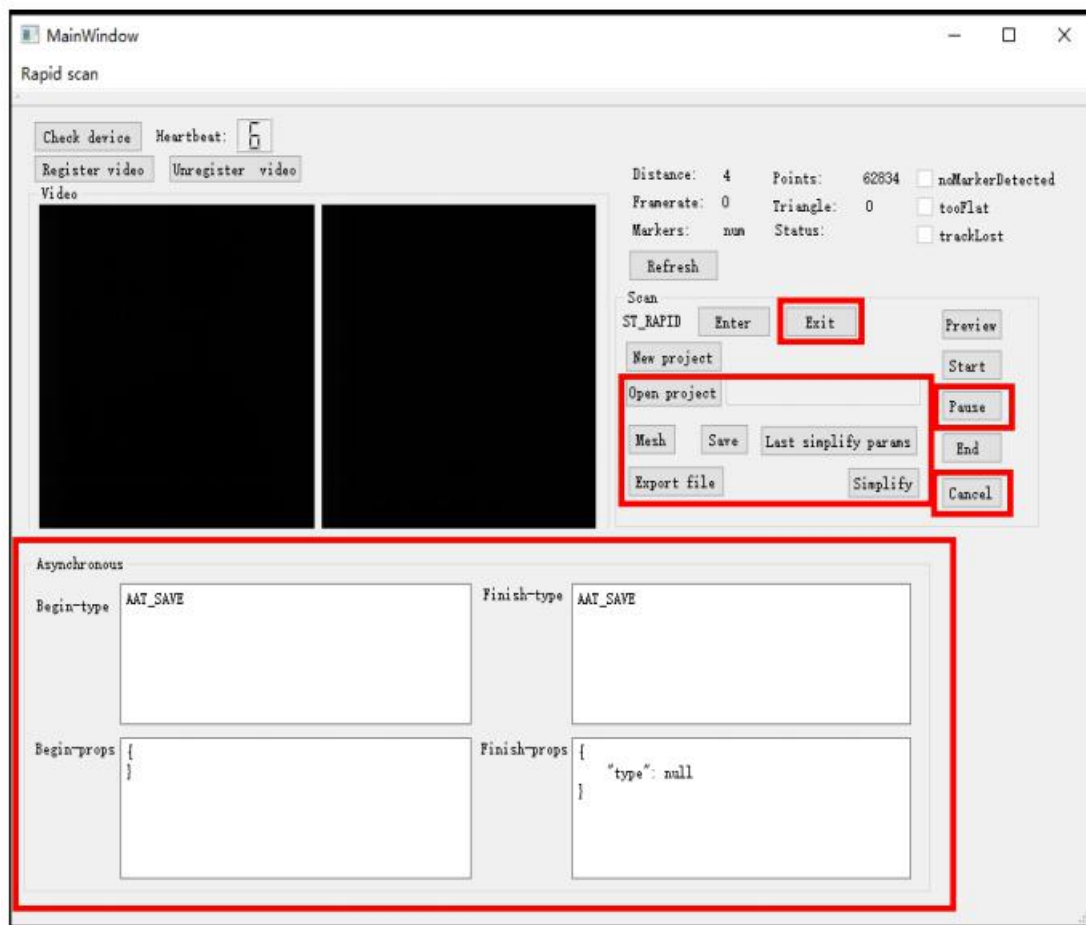

Figure 16 The selected parameter of the box
11、The meaning of the parameters corresponding to the red box in figure 16, the parameter details are shown in table 8.